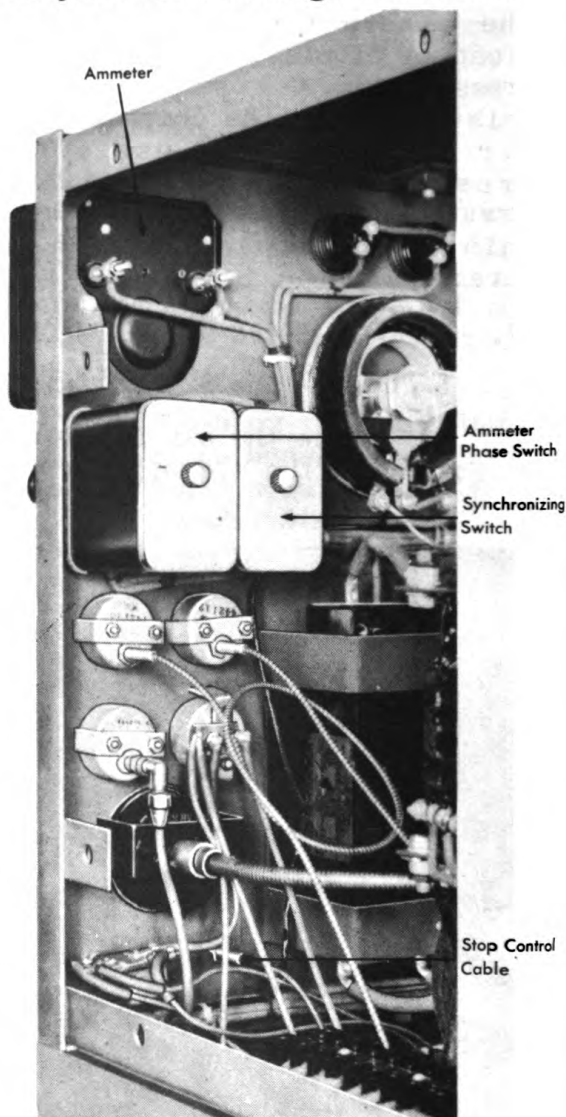

Figure 22. Rear View of Section of Control Panel
7. Check the control wires and cables leading to the instrument panels. Apply a few drops of oil along the surface of the flexible tube for the stop control and with your fingers, flex the tubing a little to allow the oil to penetrate through the wire. See Figure 22.